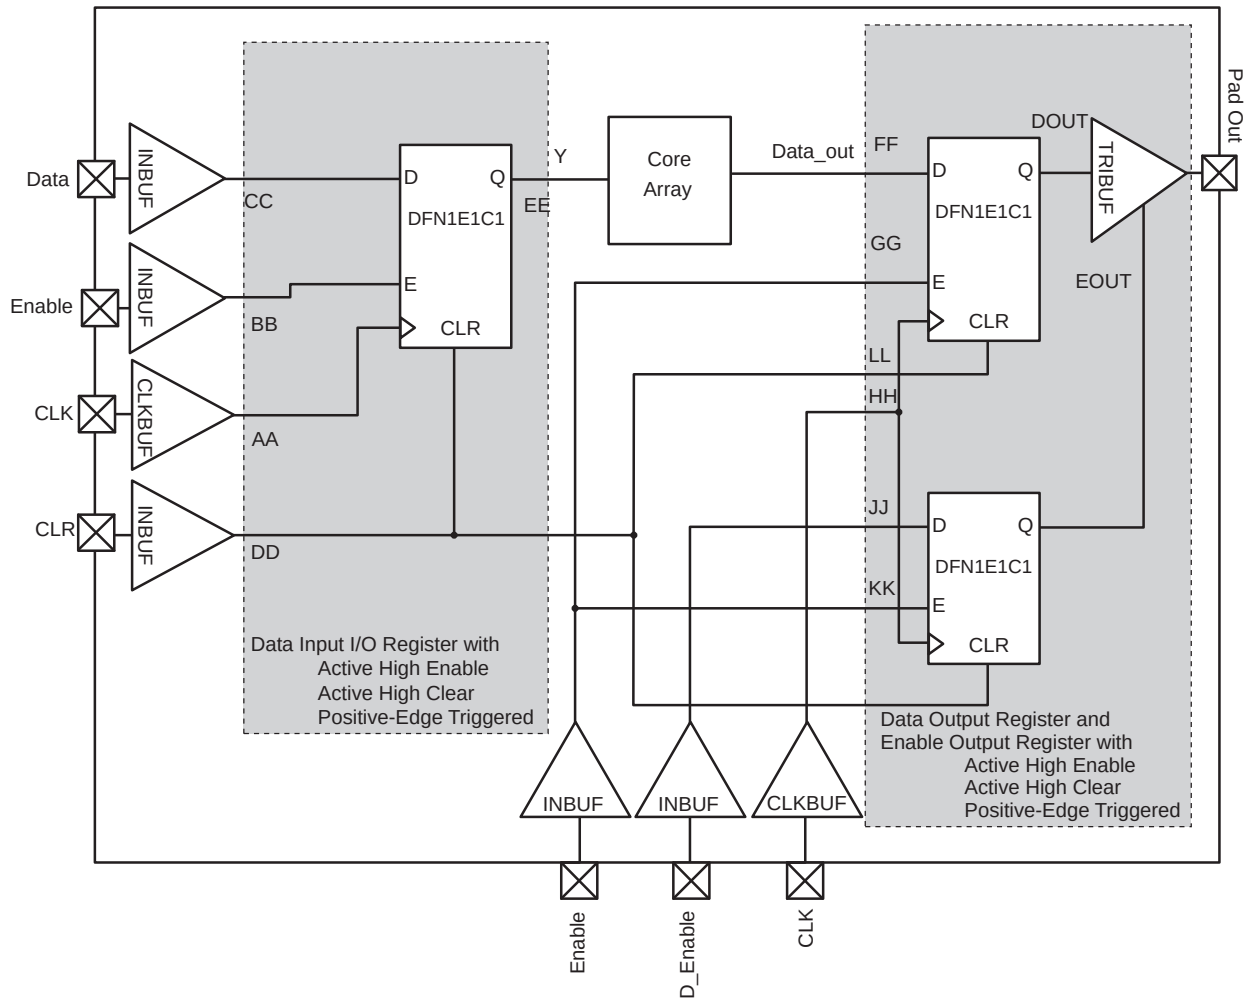

Figure 2-17 • Timing Model of the Registered I/O Buffers with Synchronous Enable and Asynchronous Clear
**Note:** \*See Figure 2-17 on page 2-86 for more information.